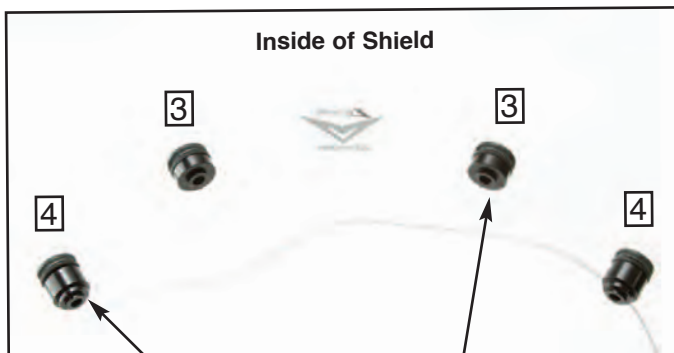

Figure 2
2. From inside of screen install the 2, Outer Bushings (4) and the 2, Inner Bushings (3). **Figure 2.**